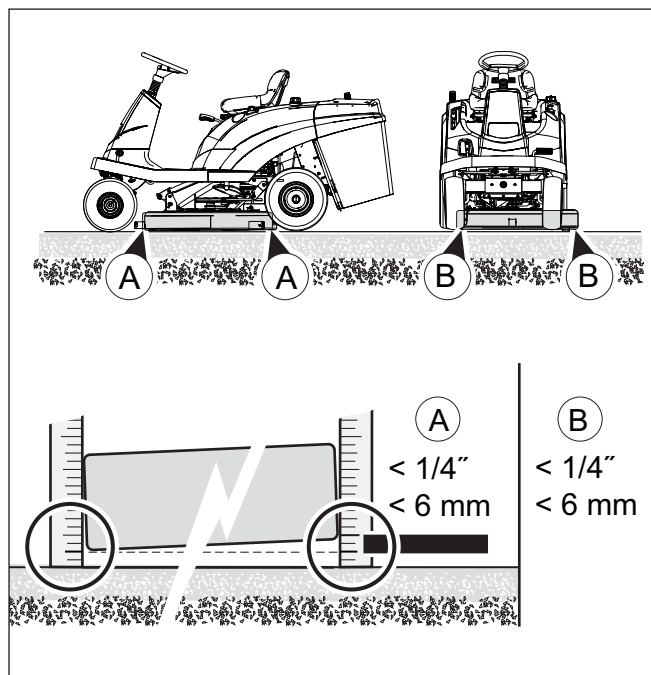

Figure 28
10. Measure the distance from the surface to the bottom of the mower deck in the front and rear. The measurements should be within 1/4 in. (see **A**, **Figure 28**). If not, repeat Steps 4 through 10.
- a. The measurements should be within 1/4 in. (see **B**, **Figure 28**).